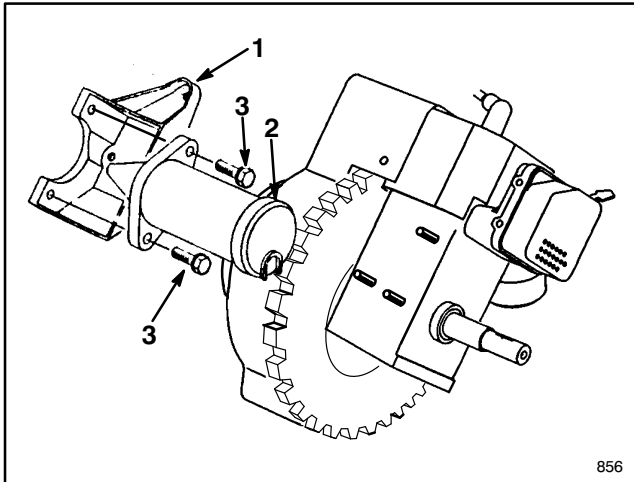

Figure 5
5. Remove (2) two screws securing starter motor to motor mounting bracket (Fig. 5). Discard motor and (2) two screws.